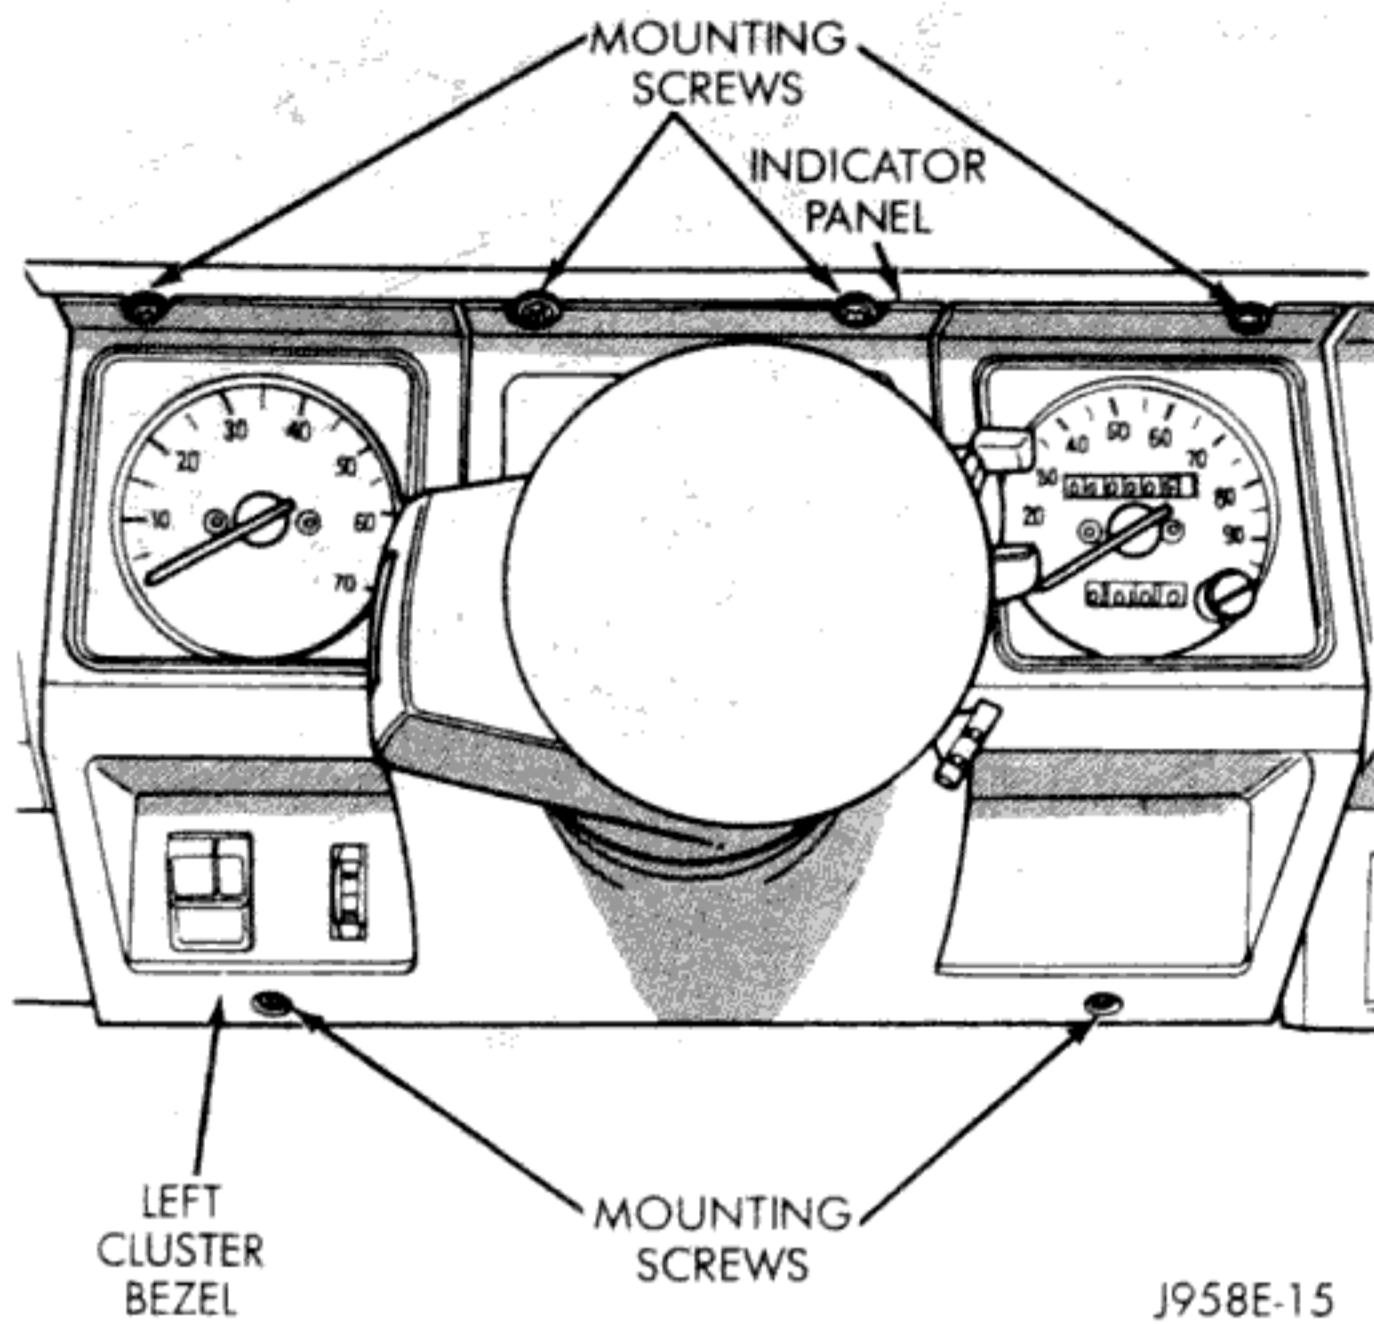

Fig. 22 Left Cluster Bezel Remove/Install
- (1) Disconnect battery negative cable.
- (2) Remove 6 screws from left instrument cluster bezel (Fig. 22).